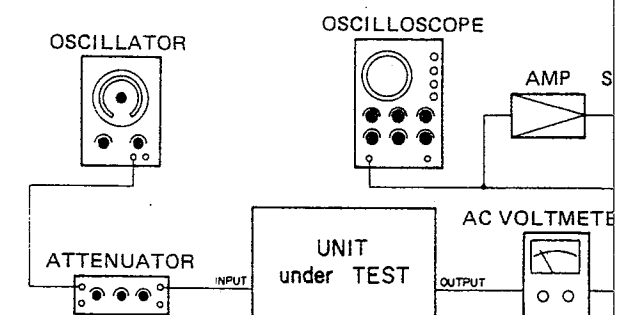

Fig. 6-6-4
- 1) Connect test equipment as shown in Fig. 6-6-4. and adjust the controls and switches as mentioned under "6-6-6 OVERALL FREQUENCY RESPONSE".